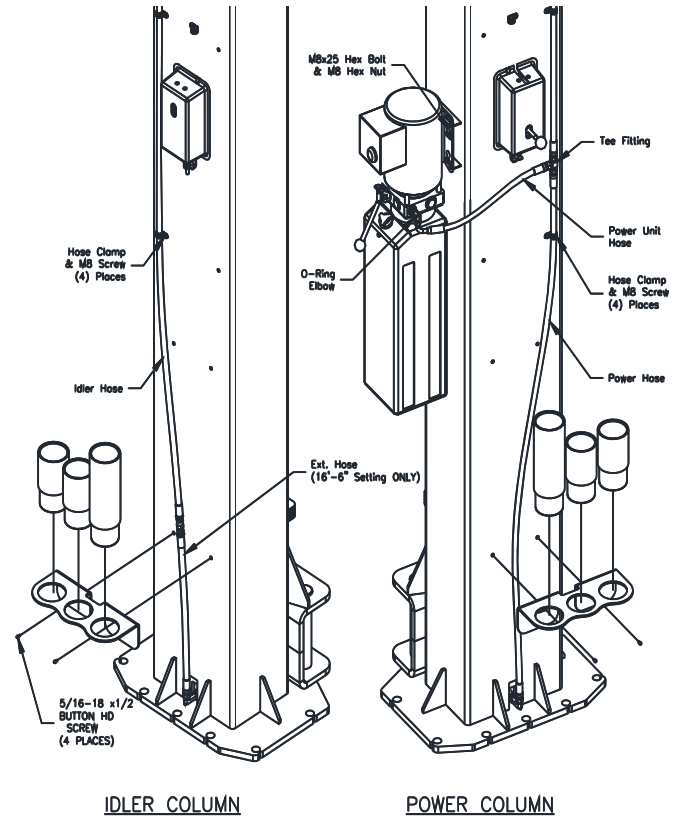

Fig. 7 – Hose Routing
- 24) Beginning on the idler side, attach the idler extension hose to the cylinder elbow fitting (this hose is not needed for reduced height installations). Continue with the idler hose (long) up the backside of the column and through the plastic guide at the top of the column extension. Continue across the overhead through each of the guides as shown in Fig. 7 and down the backside of the power column.
- 25) Route the power hose from the power side cylinder elbow fitting up to the union tee provided. Connect idler hose and power unit hose to the union tee as shown in Fig. 7.
- 20) Mount Power Unit to power column as shown in Fig. 7 using (4) M8 hex bolts and nuts.